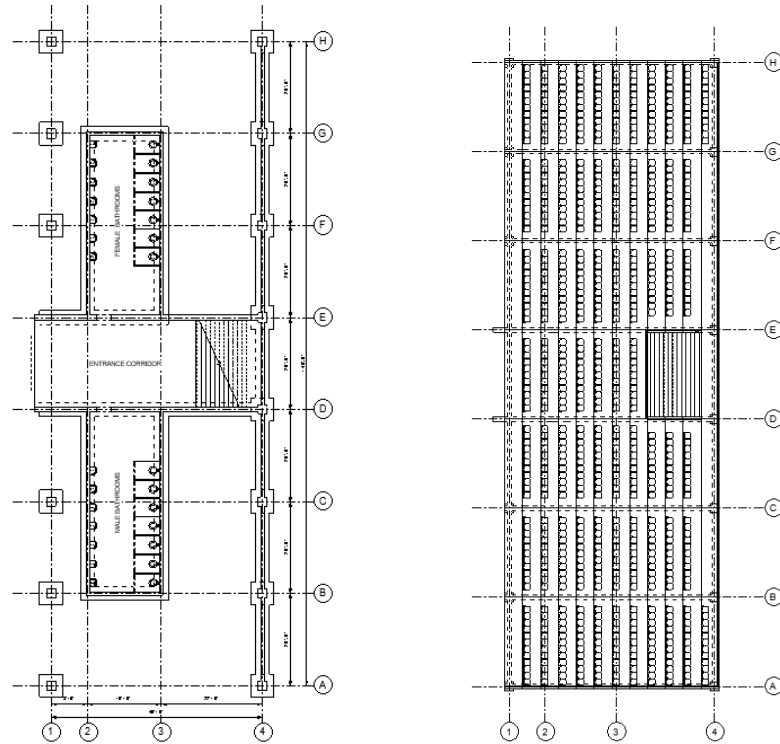

Figure 6: Level 0 Floor Plans and Landing Level Seating Plan
The west stand of the Boobe Stadium will be designed for maximum functionality by only providing one type of seating at the 11 landing levels, and (2) male and female bathrooms located off the entrance corridor with (7) stalls in each bathroom, refer to figures 6 for preliminary floor and seating plans.